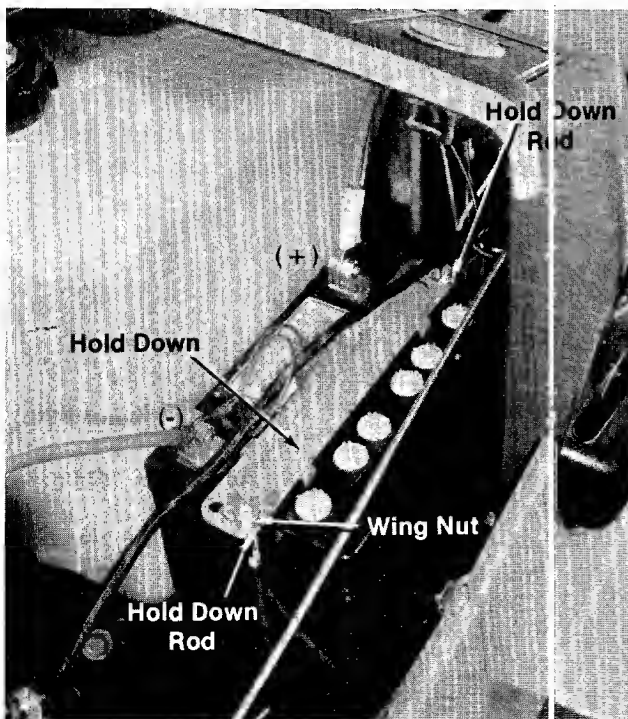

FIGURE 1.
1. Insert one of the hold down rods in the battery box. See figure 1.
5. Attach the positive battery cable (which has two red wires) to the positive battery terminal. See figure 1.
6. Attach the negative battery cable (grounded, two green wires) to the negative battery terminal. See figure 1.